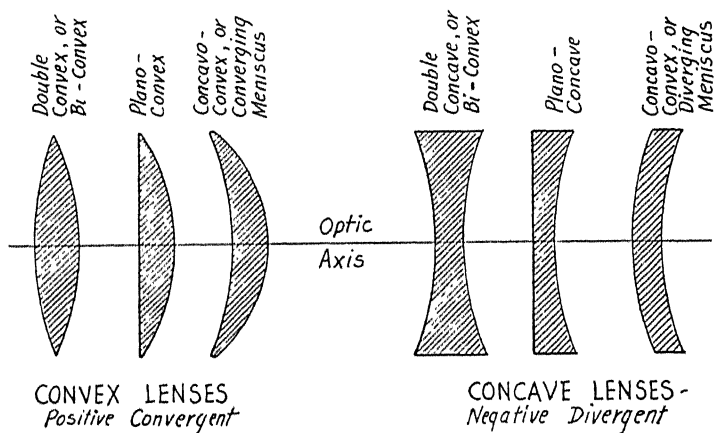

FIG. 15.—THE SHAPES OF LENSES
The Shapes of Simple Lenses.—Lenses have two fundamental shapes and these are (1) convex, or positive convergent, and (2) concave, or negative divergent. Names of the *convex* or *positive convergent* lenses are (a) the double convex or biconvex, (b) the plano-convex, and (c) the concavo-convex, converging or positive meniscus¹ lens; while the *concave* or *negative divergent* lenses are (a) the double concave or biconcave, (b) the plano-concave and (c) the concavo-concave, diverging or negative meniscus lens, and these are all shown in *Fig. 15*.